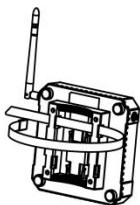

Figure 8
Step1: Insert the end of the tree-mounting strap through the slot on the back of the Hub (*Figure 8*).